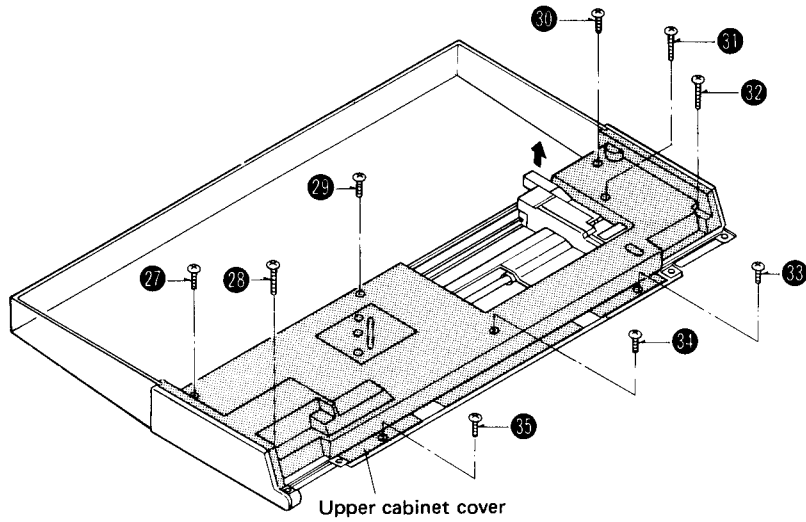

Fig. 9
4. Completely open the dust cover; remove the upper cabinet cover setscrews 27 ~ 33; and remove the upper cabinet cover while pulling the tonearm in the direction of the arrow. (Fig. 9)